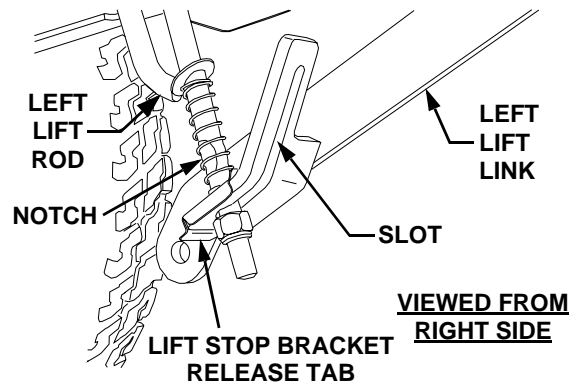

Figure 4A
2. The left lift link of the tractor must be raised to provide clearance for sliding the mower deck under, or out from under, the tractor. Referring to figures 4A through 4D, lock the left lift link in its *deck installation position* as follows:
- b. Holding the left lift rod downward, lift upward on the release tab of the lift stop bracket while raising the rearward end of the lift link to align the notch of the rod with the slot of the link (See Figures 4A and 4B).
- Holding the left lift rod downward, lift upward on the release tab of the lift stop bracket while raising the rearward end of the lift link to align the notch of the rod with the slot of the link (See Figures 4A and 4B).